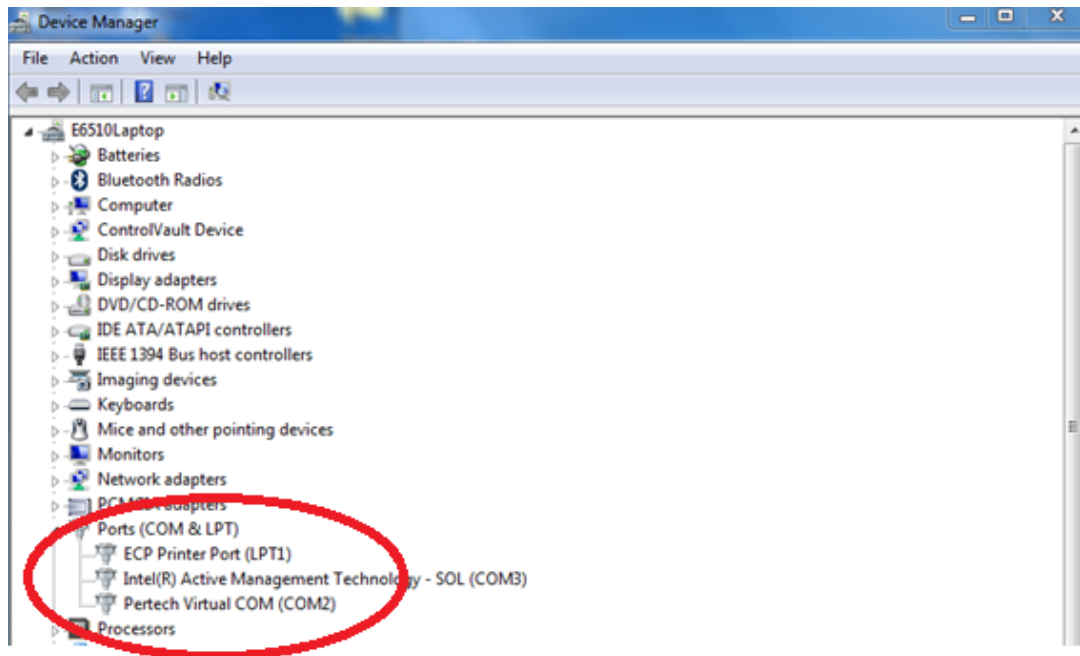

Figure 1
- a. When the driver is installed windows will assign the printer to a free COM port number on the PC. This COM number will remain associated with the printer even if the USB cable is plugged into a different USB port on the PC. To see what COM number Windows assigned for your printer on your machine, go to the Device Manager tree and open the Ports (COM & LPT) branch, see figure 1 on the next page.